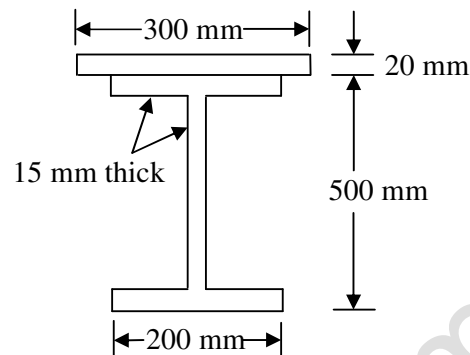

Figure 5
6. The Beam AC is simply supported at A and C and subjected to the uniformly distributed load of  $300 \text{ N/m}$  plus the couple of magnitude  $2700 \text{ N-m}$  as shown in Figure 5. Write equations for shearing force and bending moment and make plots of these equations. (15M)
7. A symmetric I-section of size 200mm × 500mm, 15 mm thick is strengthened with 300mm × 20 mm rectangular plate on top flange as shown in Figure 5. If permissible stress in the material is  $150 \text{ N/mm}^2$ , determine how much concentrated load the beam of this section can carry at centre of 6 m span. Given ends of beam are simply supported. (15M)